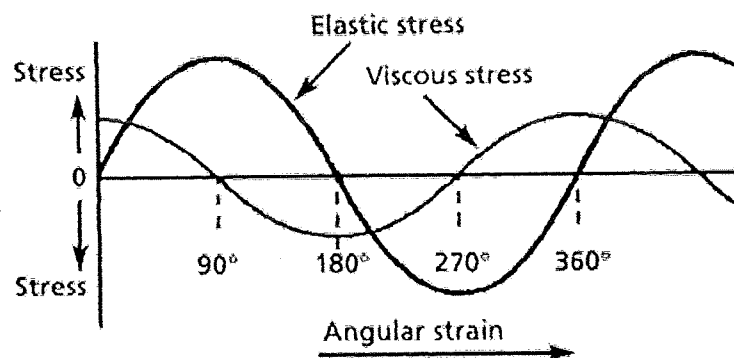

Figure 1 : Idealized cyclic stress-strain, showing the viscoelastic curve split up into its two primary components, elastic and viscous stresses.
2. (a). The viscoelastic behaviour of a rubber under cyclic deformation is shown in Figure 1. Briefly describe the elastic and viscous stresses response during cyclic deformation of a rubber material.